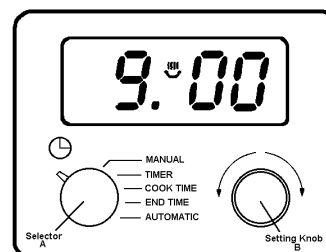

Fig.7
- i) Make sure the electricity supply is switched on. Set the correct time of day, e.g. 9.am Fig.7.